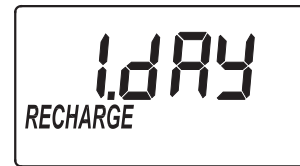

FIG. 15
1. If you completed the previous step, the word "RECHARGE" should show in the display (See Figure 15). Otherwise, press the SELECT button several times until it does.